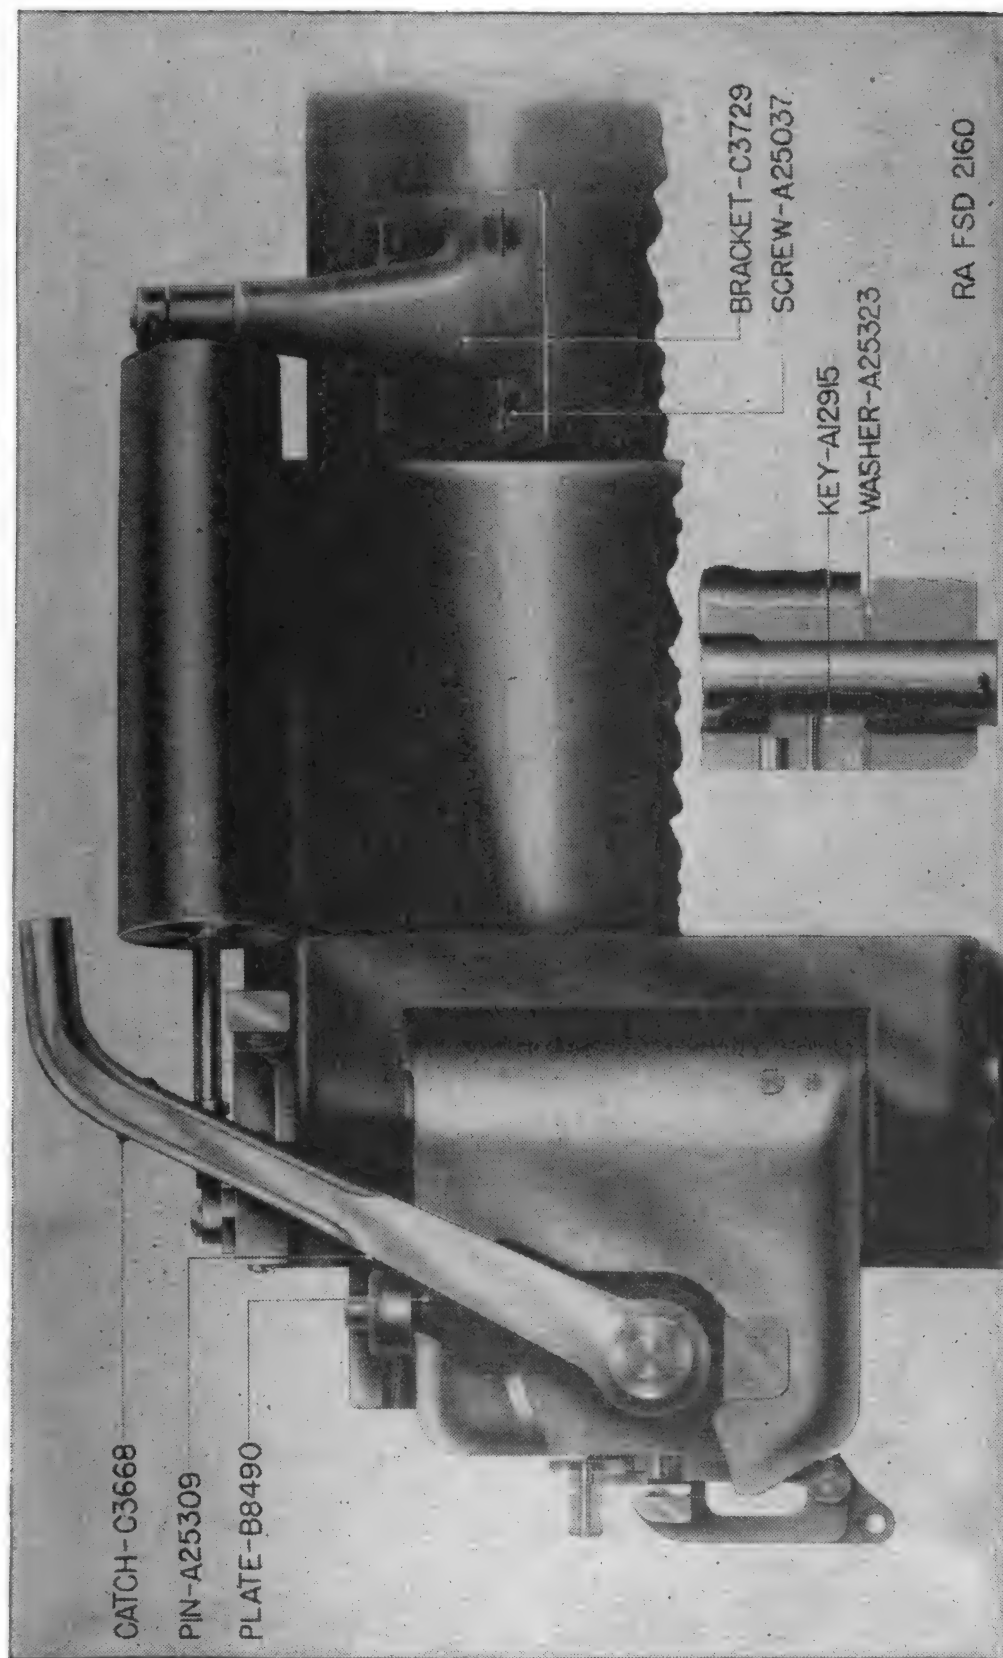

FIGURE 7.—155-mm gun breech mechanism—right side view.
**4. Breech mechanism.**—The breech mechanism is of the interrupted screw, carrier-supported, two-cycle type. It is equipped with a spring-actuated counterbalance mechanism, a percussion type of firing mechanism, and a plastic type obturator mechanism with a mushroom head. The breechblock, which is straight in cross section, is divided circumventially into 12 equal parts. Four of these are plain and the remaining eight screw-threaded, thus giving a two-thirds bearing surface in the locked position. The threaded surfaces are of different diameters. The interrupted screws in the breech recess are arranged to accommodate the interrupted screws of the breechblock. When the breechblock is unlocked, the segments of the large diameter threaded screws move into the plain sectors of the breech recess, while the segments of the smaller diameter threaded sectors move into the space left vacant by the larger threaded sectors. The breech threads are interrupted so that the breechblock may be inserted or withdrawn quickly. In closing the breech, the threaded sectors are brought opposite the blank sectors of the breech recess and the breechblock may be inserted rapidly nearly to its seat. When the breechblock is then turned through an arc of  $35^\circ$ , the threads on the breechblock are entirely engaged with the threads in the breech recess, and the breech is closed. An operating lever is provided which rotates the breech for the opening and closing operations. The breechblock is supported when withdrawn from the breech by a breechblock carrier hinged to the right side of the breech ring. Upon the front of the carrier is a pintle, forming a pivot for the breechblock, about which it rotates when operated by the crosshead. A recess for the crosshead is provided on the right side of the breechblock. The crosshead is actuated by means of a crank on the end of the crankshaft which engages the crosshead, operating in a recess in the breechblock. Motion of the breechblock operating lever rotates the crankshaft and imparts a rotating motion to the breechblock for locking and unlocking operations. A roller on the rear face of the breechblock and a cam on the breech end of the breech ring are provided to give a turning movement to the breechblock in closing. The breechblock control arc is secured to the pin side of the breech ring face. One sector of the breechblock rides over the arc as the mechanism is swung into the loading position and prevents it from rotating. The weight of the breech mechanism holds it in the open position. The breechblock operating lever is retained in the closed position by a catch which engages a plate attached to the carrier. The catch may be disengaged by depressing the catch lug on the side of the operating lever (figs. 7, 8, 9, and 10).
**7. Counterbalance mechanism.**—The counterbalance mechanism compensates for the effect of gravity in the operation of the breech mechanism, thereby making it easier to open and close. The counterbalance mechanism is attached to the gun by means of the counterbalance bracket at the front end and at the rear by means of the counterbalance piston rod. The counterbalance piston rod is attached to and operates in conjunction with the hinge pin. The mechanism consists of a counterbalance cylinder and a counterbalance piston and rod. At one end of the connecting rod the counterbalance piston bears on the counterbalance spring and at the other end fits around a pin secured to a crank extension of the hinge pin. Some of the early models are equipped with a regulating device as an extension of the hinge pin. By rotating the counterbalance regulating screw, the tension of the counterbalance spring may be increased or decreased to suit the angle of fire (figs. 7 and 12).